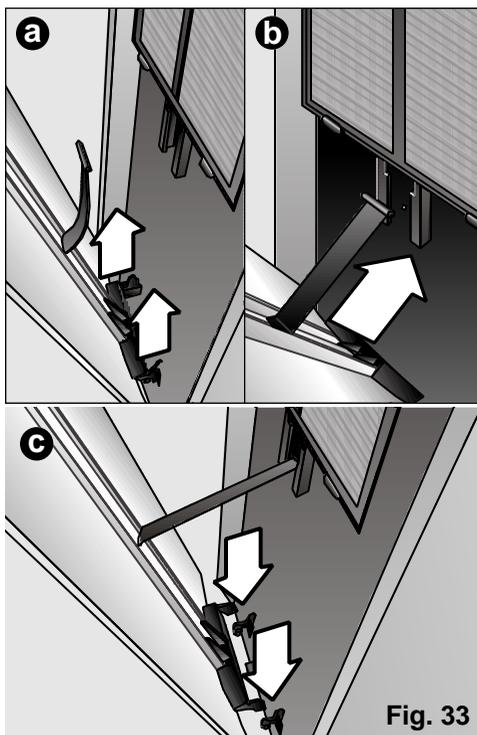

Fig. 33
- 1° Lift the flap until it comes out of its lower supports, (Fig. 33 a).
- 2° Position the plastic leg in the front groove on the appliance (in T position) and slide it down to the safety stop, (Fig. 33: b).
- 3° fit the lower studs in the front stops on the appliance making sure that the plastic leg fitted in the previous step does not come out of position, (Fig. 33: c).